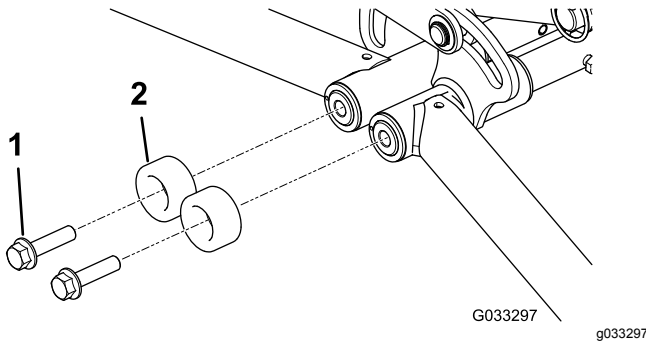

Figure 20
2. Remove the existing flange-head bolts and the round bumpers (Figure 20).